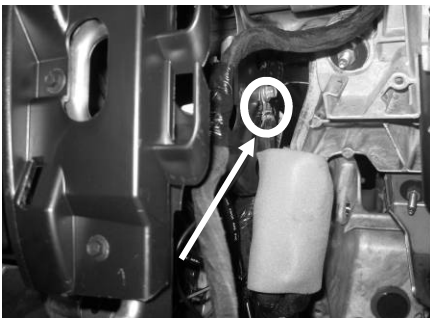

Figure 3
7. Attach black ground wire to location shown in **Figure 3**.